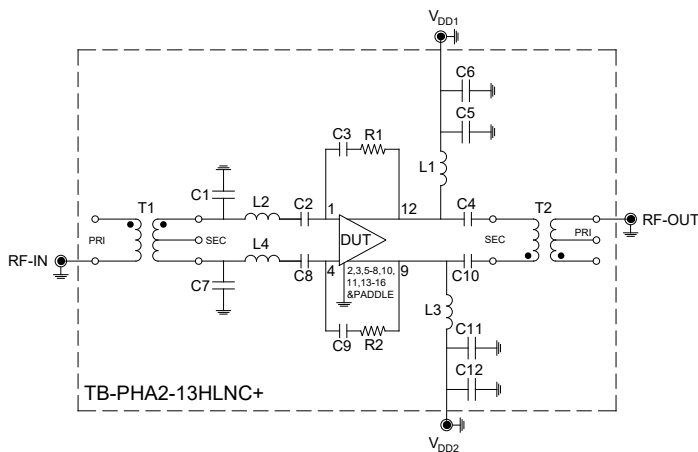

Figure 2. PHA2-13HLN+ Characterization and Application Circuit
1. Tested on Mini-Circuits Characterization Test Board TB-PHA2-13HLNC+. See Figure 2.
Note: The following data was taken on the Mini-Circuits Characterization Test Board TB-PHA2-13HLNC+ (Figure 2).
8. Tested on Mini-Circuits characterization test board TB-PHA2-13HLNC+. See figure 2